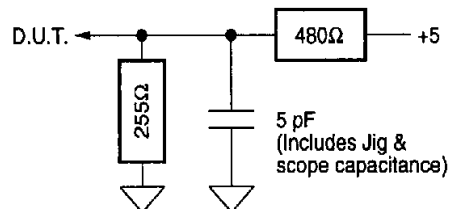

Figure 1b. Output Disable Timing Load
6. Transition is measured $\pm 500\text{mV}$ from steady-state voltage with load of Figure 1B. This parameter is sampled rather than 100% tested. At any given voltage and temperature, t_{CHZ} max is less than t_{CLZ} min for a given device and from device to device.